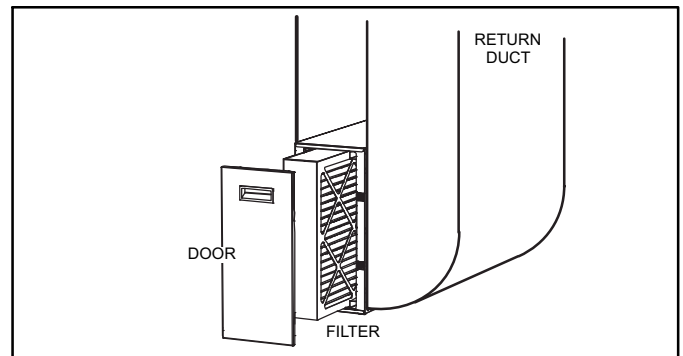

Figure 14. Insert Filter and Attach Door
8. Slide the filter into the rail and secure the cabinet door (see figure 14).